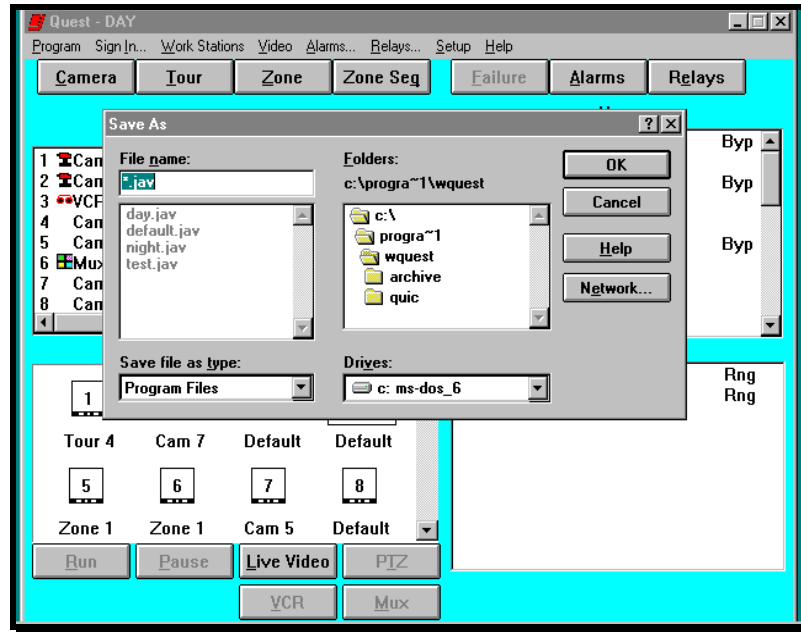

Figure 2-17. Save As Dialog Box
4. Click on **Save As** to save a program as a new name. The Save As Dialog box is illustrated in Figure 2-17.